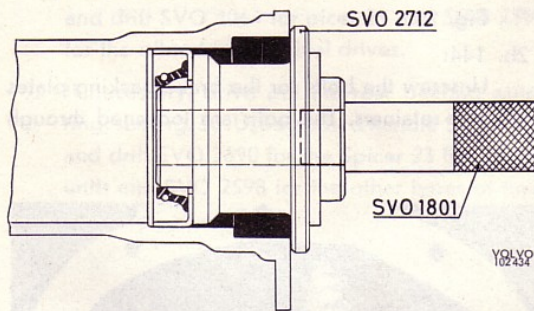

Fig. 23. Fitting inner oil seal
12. Pull out the inner oil seal with puller SVO 2728, see Fig. 11. Drive in the new seal with drift SVO 2712, which automatically locates the oil seal correctly in the drive pinion carrier, see Fig. 23. The oil seal, however, must not be driven in so far that it bottoms.